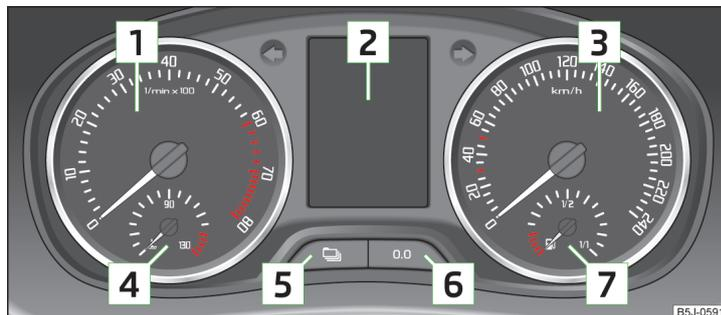

Fig. 19 Instrument cluster
The red scale of the rev counter 1 » Fig. 19 on page 26 indicates the range in which the engine control unit begins to limit the engine speed. The engine control unit restricts the engine speed to a steady limit.
The coolant temperature gauge 4 » Fig. 19 on page 26 operates only when the ignition is switched on.
The fuel gauge 7 » Fig. 19 on page 26 only works when the ignition is switched on.
The meter can be reset by pressing and holding button **[6]** » Fig. 19 on page 26.
The clock is set with buttons **[5]** and **[6]** » Fig. 19 on page 26.
- Press the **[5]** » Fig. 19 on page 26 key repeatedly, until the odometer display flashes » page 28.